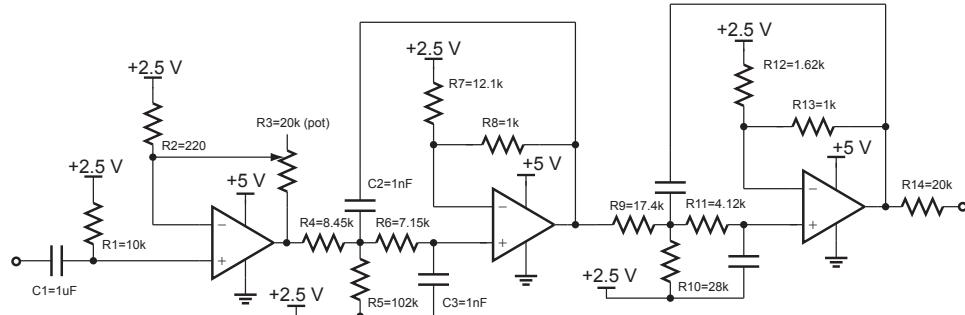

Figure 11: Schematic of the active low-pass filter.
In this part of the lab, we will implement an active low pass filter (LPF) with an adjustable gain stage. In the final radar system, the LPF+Gain stage will be responsible for filtering out spurious signals that may disturb the received baseband radar signals. We will use the Texas Instrument OPA4228 quad Op-Amp for both the gain stage and the active LPF. A pinout diagram of OPA4228 is shown in Fig. 6.10.4. Fig. 11 shows the schematic of the circuit. Fig. ?? shows an example of the actual circuit on a breadboard.
1. Identify the gain stage in Fig. 11. What is the expression of its gain? Notice the +2.5 V bias does not affect this result, rather it simply shifts the bias of the overall amplifier since a single 5 V supply (battery) is used vs a dual-rail (both positive and negative) supply.
1. Identify the active LPF portion of the circuit in Fig. 11. The overall filter consists of 2 low pass filters. What is the order of the overall filter and how is it determined from the schematic?
3. To measure just the filter response, disconnect R4 and R14 from the circuit (Fig. 11). Input a 3 Vpp signal in place of R4 and measure the output in place of R14. Tabulate and plot the frequency response from 100 Hz to 50 kHz. What is the cutoff frequency of the filter?